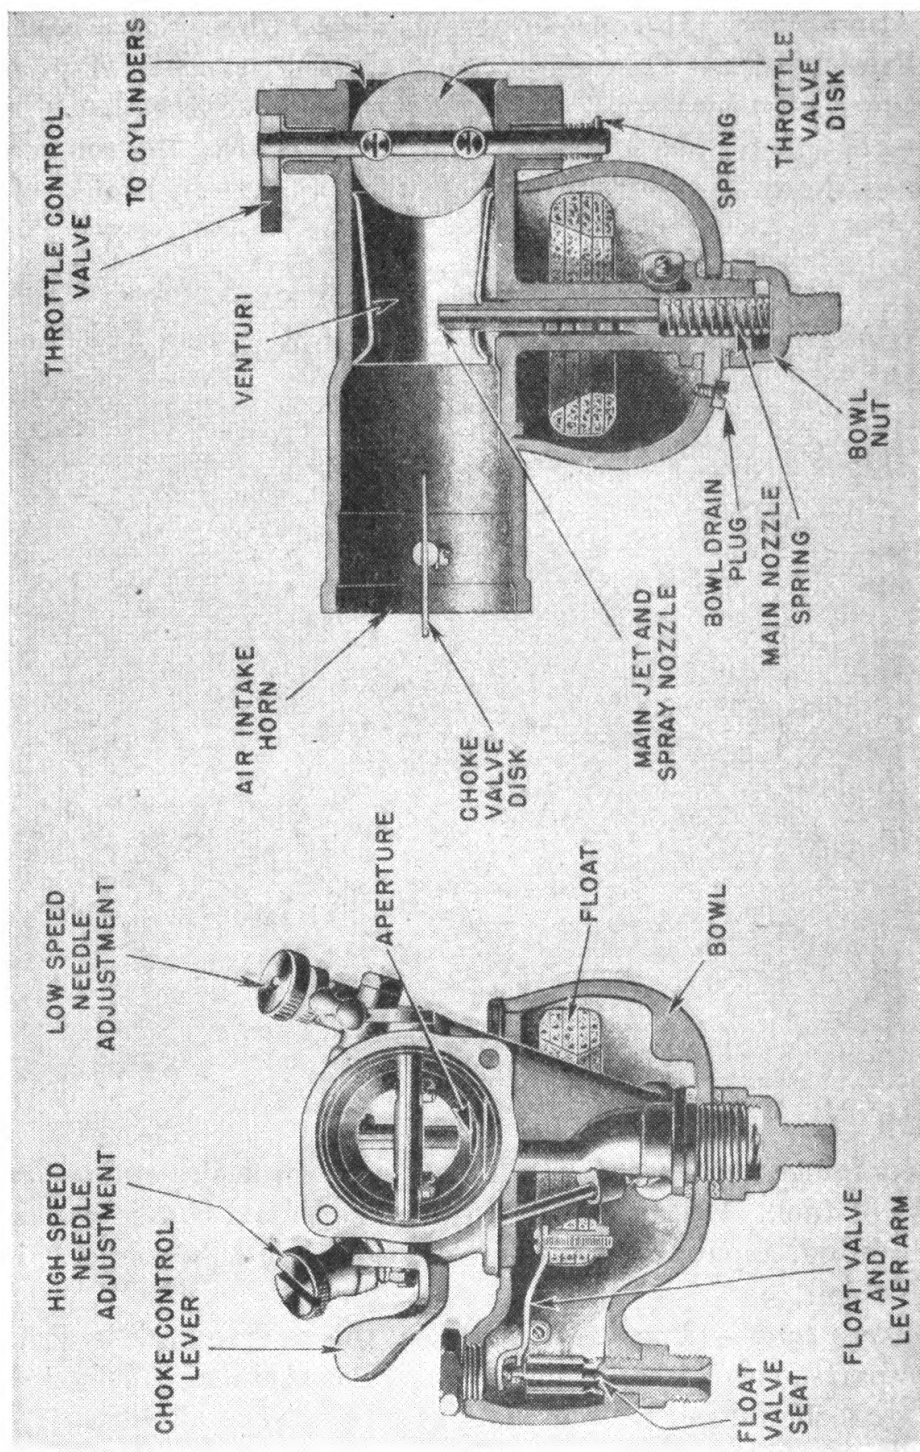

FIGURE 80.—Sectional views of a plain tube carburetor.
**68. Carburetion.**—The carburetor has four functions. It accurately meters, atomizes, and mixes the gasoline with the correct quantity of air, and delivers this mixture (fuel charge) to the engine cylinders. The plain tube (side-draft) type of carburetor (fig. 80) has been found more adaptable for motorcycles than the up-draft or down-draft types used on automobiles.
The flow of the air stream into the carburetor is controlled by the choke valve; flow of the fuel charge out of the carburetor is controlled by the throttle valve. (See figs. 80 and 81.)